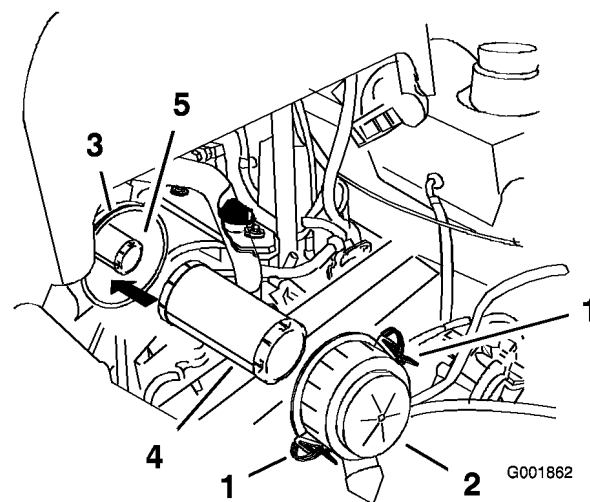

Figure 40
4. Release the latches on the air cleaner and pull the air cleaner cover off of the air cleaner body (Figure 40).
6. Gently slide the primary filter out of the air cleaner body (Figure 40). Avoid knocking the filter into the side of the body.
1. Do not clean the paper filter. Replace it after 200 operating hours (Figure 40).
2. If the safety filter is being replaced, carefully slide it into the filter body (Figure 40).
3. Carefully slide the primary filter over the safety filter (Figure 40). Ensure that it is fully seated by pushing on the outer rim of the filter while installing it.
4. Install the air cleaner cover with the side indicated as UP facing up and secure the latches (Figure 40).